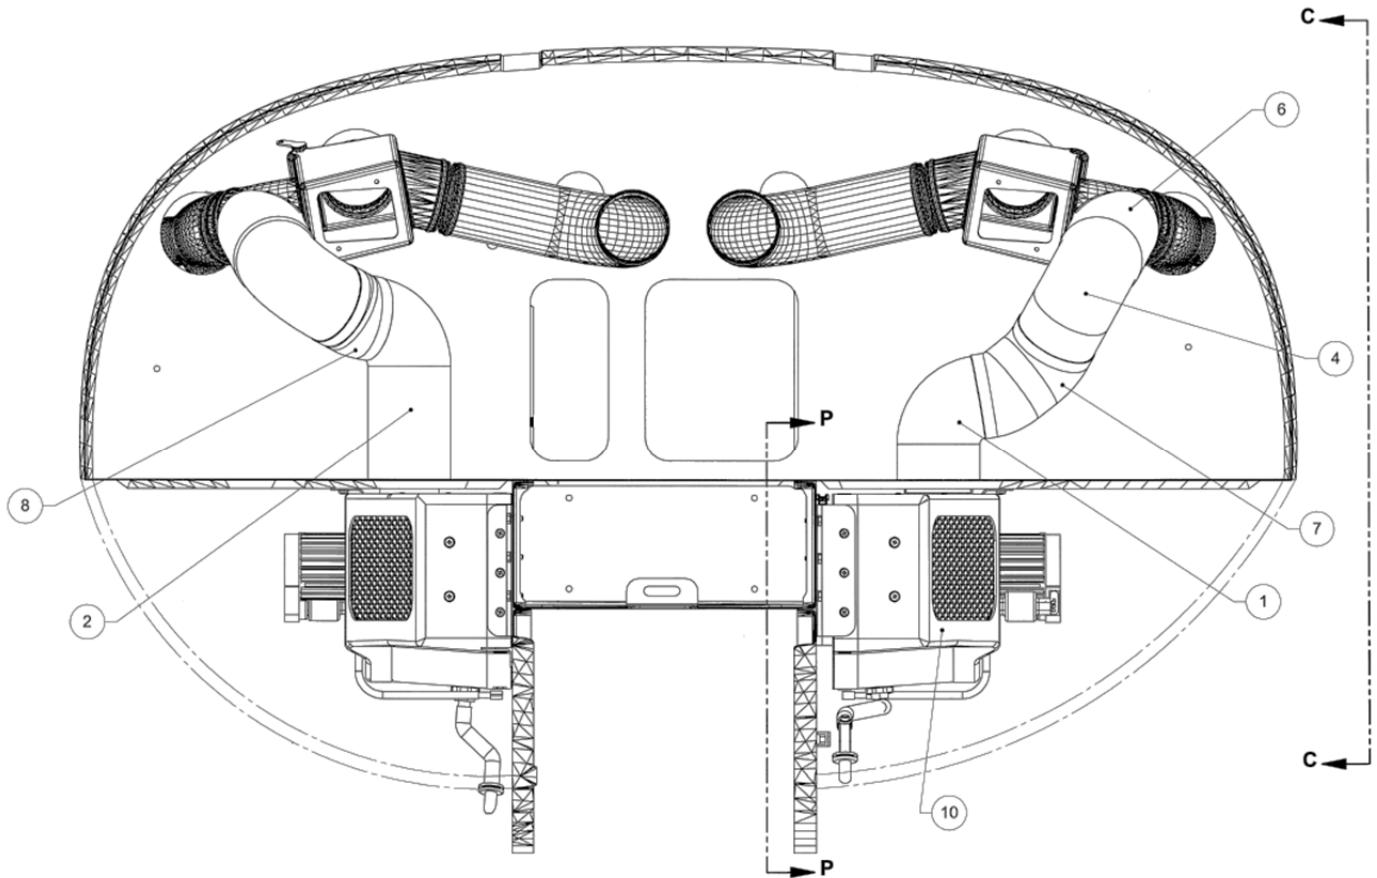

Figure 7: Dual Fwd Evaporator Ducting – Nose, View Looking Aft
- c. Install LH evaporator ducting as follows (Figure 7):
- d. Install RH evaporator ducting as follows (Figure 7):